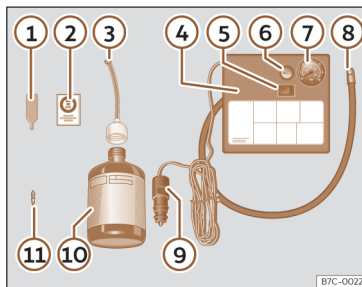

Fig. 247 Standard display: contents of the anti-puncture kit.
The anti-puncture kit is located underneath the floor covering in the luggage compartment. Includes the following components >>> Fig. 247:
- Unscrew the tyre valve cap and insert. Use the device >>> Fig. 247 1 to remove the valve cap. Place it on a clean surface.
- Shake the tyre sealant bottle vigorously >>> **Fig. 247 10**.
- Screw the tyre inflation hose >>> **Fig. 247 3** into the tyre sealant bottle. The bottle's seal will break automatically.
- Remove the filler cap >>> **Fig. 247 3** and screw the open end of the tube into the tyre valve.
- Replace the howitzer with the device >>> **Fig. 247 1** onto the tyre valve.
- Screw the tyre inflation tube of the compressor >>> **Fig. 247 8** on the tyre valve.
- Check that the air evacuation screw is closed >>> **Fig. 247 6**.
- Attach the connector >>> **Fig. 247 9** to the vehicle's 12 volt power outlet >>> page 229.
- Switch on the air compressor with ON/OFF switch >>> **Fig. 247 5**.
- Attach the sticker >>> **Fig. 247 2** to the instrument panel display, within the driver's field of vision.
Screw in the inflator tube >>> **Fig. 247 8** again and check the pressure on the gauge **7**.